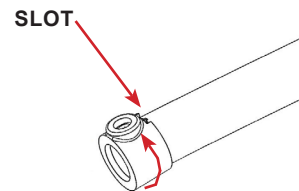

FIGURE 2.13 - Rotate Sleeve
STEP 2: Rotate the Sleeve aligning the notch with the slot in the arm. Refer to FIGURE 2.13